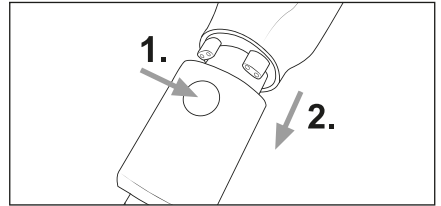

Fig. 12
- ◆ To remove the 2-in-1 combination brush **13**, hold the release button on the 2-in-1 combination brush **13** pressed and then pull it off the suction pipe **23** or out of the suction opening of the appliance (see Fig. 12).